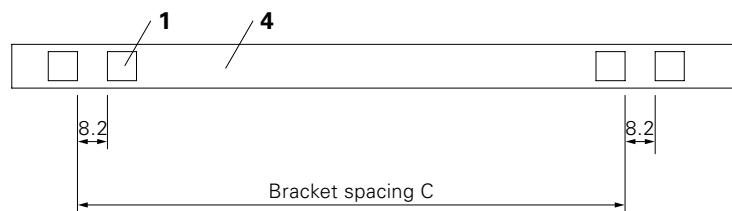

Fig. A1.02
– Stop bars 1 plank 40 x 120 mm (3) 1 plank 80 x 80 mm L = max. bracket spacing + 1.0 m.
– Gauge for bracket spacing C 1 plank 40 x 120 mm (4) L = bracket spacing + max. 1.0 m formlining blocks (1) (Fig. A1.02)
(For spacings: see Fig. A1.02)